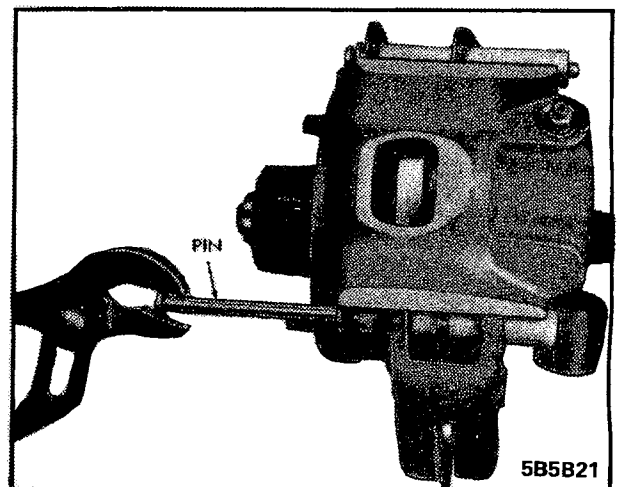

Figure 5B-21 - Removing Mounting Pins
2. Remove the two mounting pin stamped nut and mounting pins. Discard the nuts. See Figures 5B-20 & 5B-21.